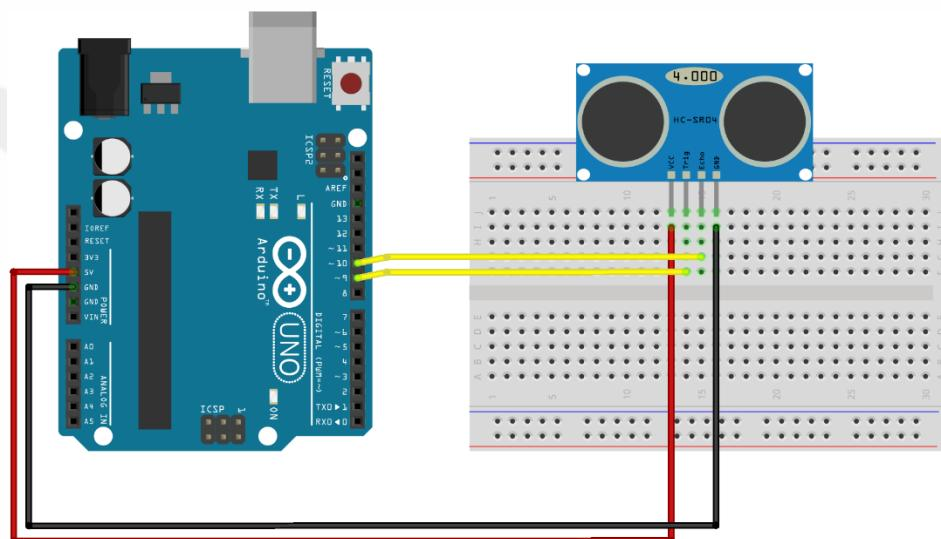

Figure 4.1 – Wiring diagram for Ultrasonic Distance Meter project.
- Connect the HC-SR04 as shown in the **Wiring Diagram (Figure 4.1)**.